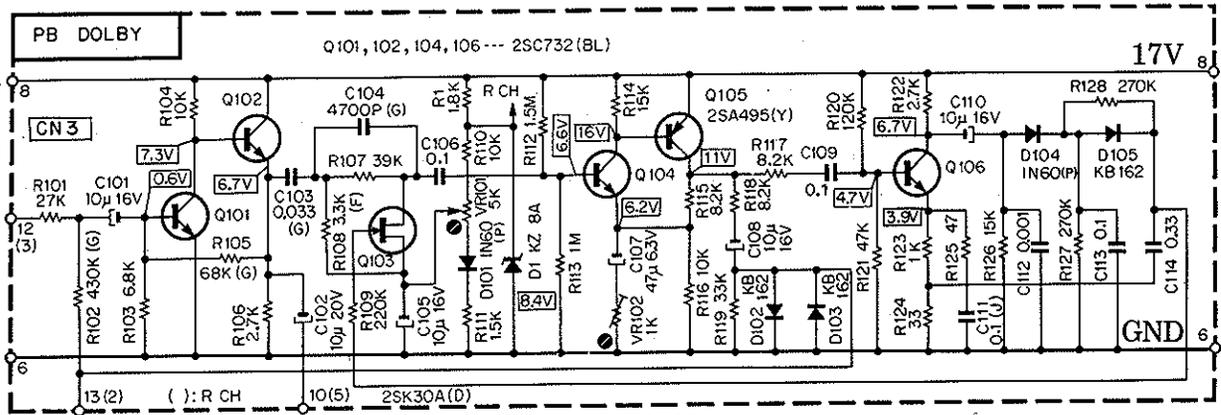

Fig.4 Playback Dolby Processor Circuit Diagram
Fig.4 shows a circuit diagram for a playback mode Dolby processor. The input for this circuit is applied through terminal 12(3) where the output of the playback head amplifier is connected. Terminal 10(5) is the output of the playback mode Dolby processor which becomes the input of the DNL circuit via the MONITOR switch. An input signal through terminal 13(2) is applied to the DOLBY NR switch. For DOLBY NR IN, this line is open and the signal is fed back to the base of Q101. For DOLBY NR OUT, this line is grounded and no signal is fed back.